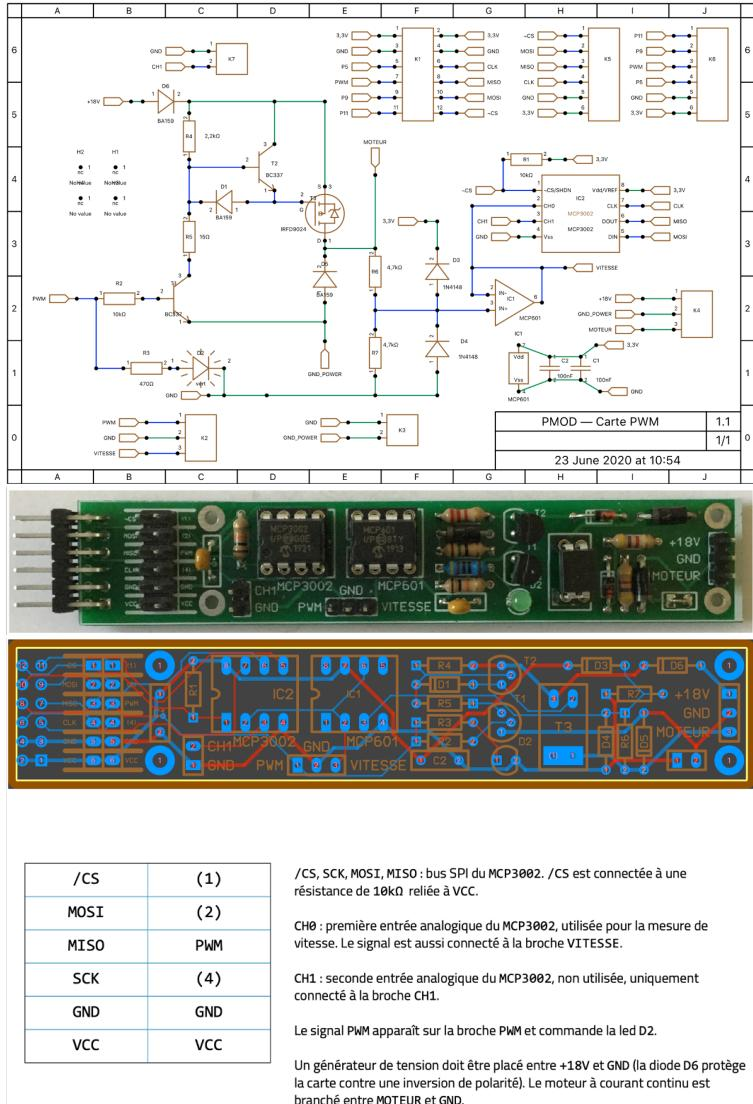

Figure 2: The extension board PWM + ADC MCP3002
To control the train motor in power, we use an extension board Figure 2 which is connected to a PMOD connector (ref. 2 in Figure 1) of your choice.
Use the K4 connector (Figure 2), and an adaptor module BNC 4mm.